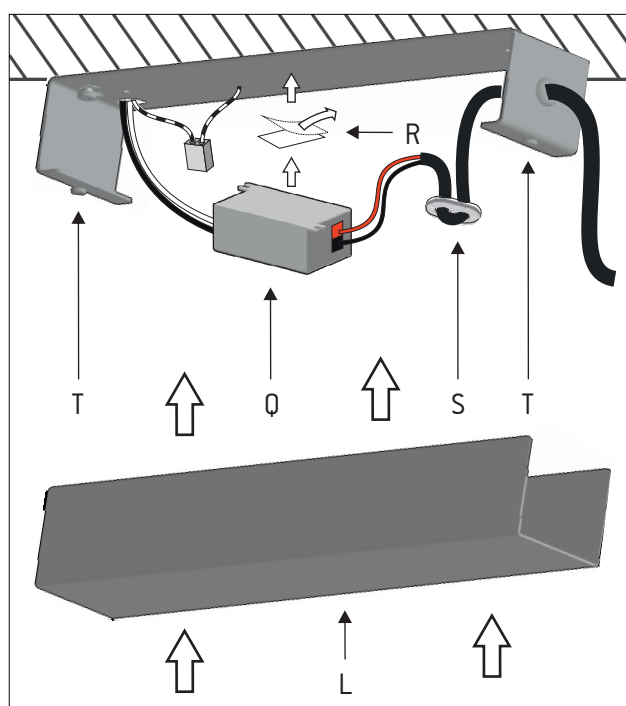

Figure 11
11 - Connect the driver (Q) to the electrical cable from the ceiling and fix it to the mounting bracket with double faced tape (R). Pass the electrical cable of the lamp through the lateral hole of the mounting bracket. Adjust the cable to the desired length and fix it using the cable ties (S). Cut the excess cable and make the electrical connections. Place back the canopy (L) and make sure that it is fixed with the mounting bracket through the magnets (T). Figure 11